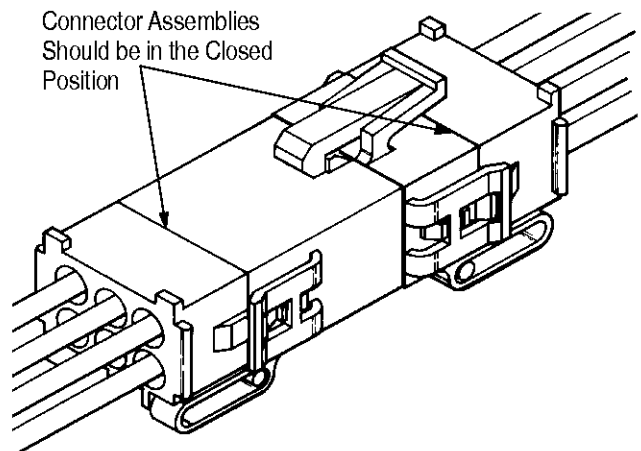

Figure 6
2. Align and push plug connector into the cap connector until it bottoms and the locking latch engages with the locking tab. See Figure 6.